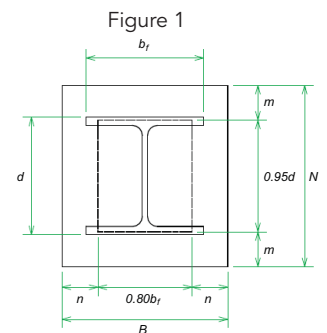
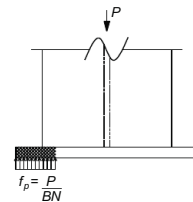
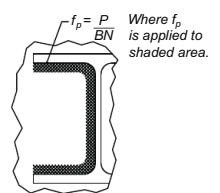

Figure 2
Figure 3
Figure 4
- 1 Consider the base plate configuration shown in Figure 1. Match the following four expressions based on Equation 14-7 of the AISC 14th Edition *Steel Construction Manual* with the correct limit states shown in Figure 2 through 5.
- 1 Figure 5, Figure 2, Figure 4, Figure 3.
- 2 True.  $\lambda$  helps identify whether a column base plate is lightly loaded or not. If so, the base plate material within the hatched line area shown in Figure 1 can be checked as shown in Figure 3. If  $\lambda = 1$ , then this same area is checked using the approach shown in Figure 4. Conservatively setting  $\lambda = 1$  means that you are always checking the base plate, even those that would qualify as lightly loaded, using the approach shown in Figure 4, which would yield a conservative base plate thickness relative to the thickness obtained using the approach shown in Figure 3 for lightly loaded columns.
- 3 True. Setting  $m$  and  $n$  equal to one another will generate the same flexural demand on the base plate for the cases shown in Figures 2 and 5.